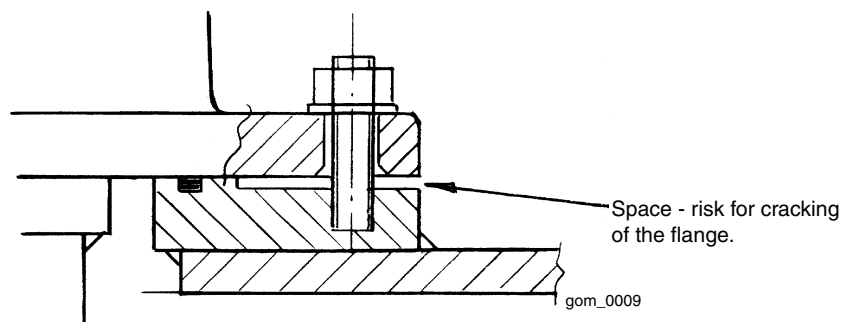

Fig. 10. Risk for cracking of the flange.
**CAUTION:** When designed with a space according to Fig. 10, the bolts must not be tightened until the flange will crack.